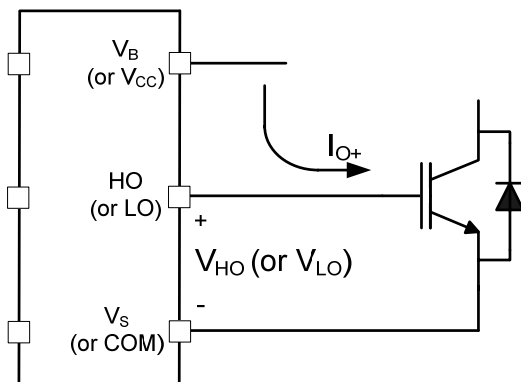

Figure 1: HVIC sourcing current
The IRS233(2,0)(D) HVICs are designed to drive up to six MOSFET or IGBT power devices. Figures 1 and 2 illustrate several parameters associated with the gate drive functionality of the HVIC. The output current of the HVIC, used to drive the gate of the power switch, is defined as  $I_{O+}$ . The voltage that drives the gate of the external power switch is defined as  $V_{HO}$  for the high-side power switch and  $V_{LO}$  for the low-side power switch; this parameter is sometimes generically called  $V_{OUT}$  and in this case does not differentiate between the high-side or low-side output voltage.